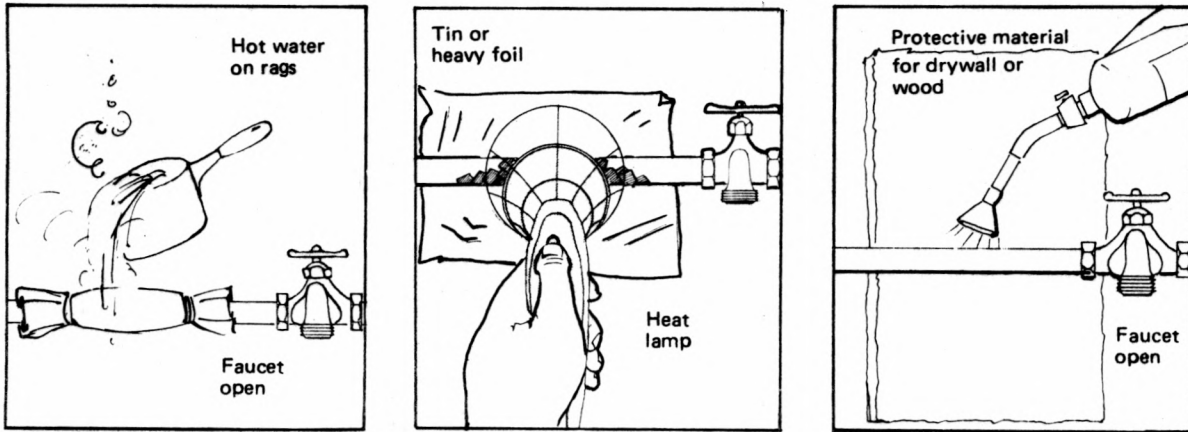

FIG. 4-11 THAWING FROZEN WATER PIPES BY HOT WATER ON RAGS, HEAT LAMP, AND PROPANE TORCH.
- d. Prop a portable electric heater close to the pipes. See Figure 4-11.